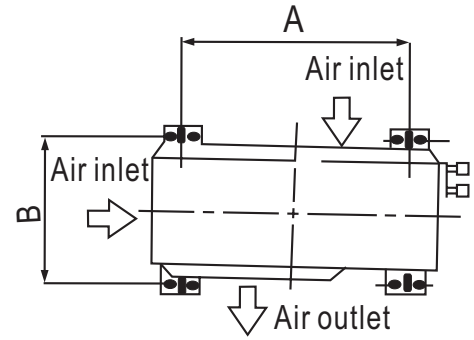

Fig. 14
For the drain joint with the seal (Fig. 14 (A)), first fit the seal onto the drain joint, then insert the drain joint into the base pan hole of outdoor unit, rotate 90° to securely assemble them. To install drain joint as shown in Fig. 14 (B), insert the drain joint into the base pan hole of outdoor unit until it remains fixed with a clicking sound. Connecting the drain joint with an extension drain hose (Locally purchased), in case of the water draining off the outdoor unit during the heating mode.